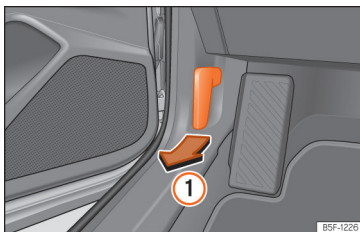

Fig. 224 Release lever in the driver's footwell area.
- Open the door and pull the lever that is underneath the instrument panel >>> Fig. 224 ①.